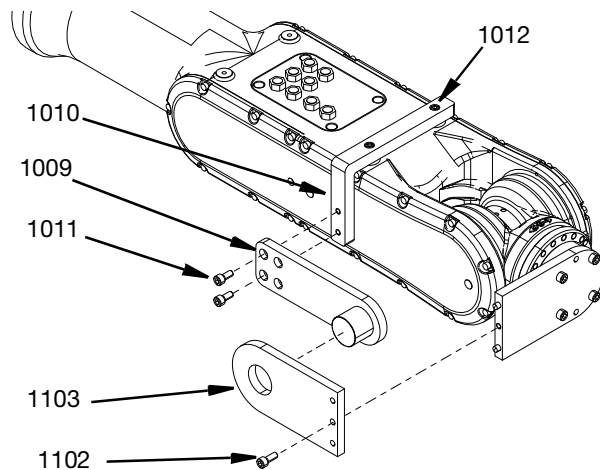

FIG. 19
3. Attach anti rotation axis plate (1009) to the Kawasaki 20 kg anti rotation bracket (1010) with M6 x 14 SCH cap screws (1011). Use the two front holes as shown in FIG. 19. Do not tighten screws.
5. After parts are assembled, Torque M5 x 12 screws (1012) to 57.5 in-lbs (6.5 N•m) and M6 x 14 SHC cap screws (1011) to Torque to 98.2 in-lbs (11.1 N•m). See FIG. 19.